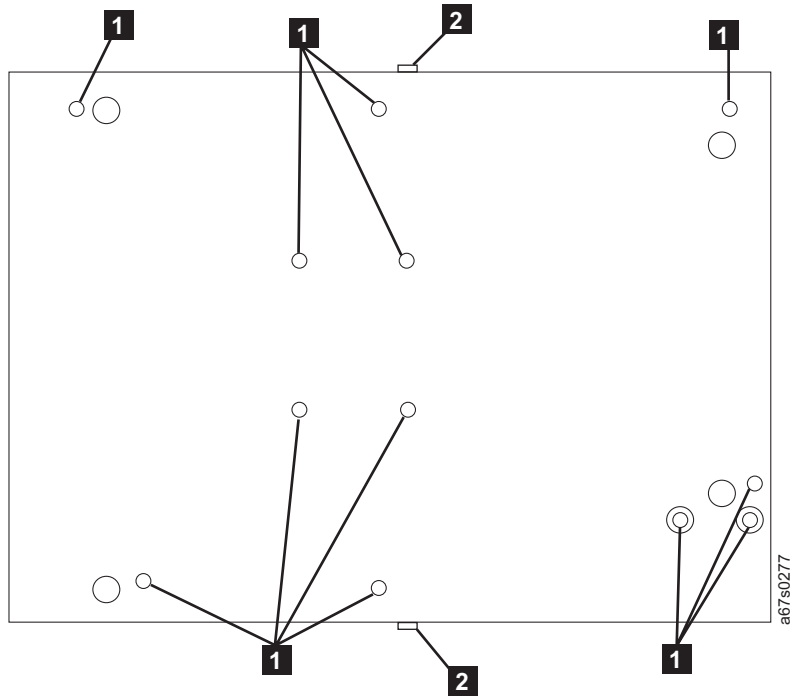

Figure 159. Location of screws on bottom cover for drive removal
- c. Remove the 12 screws from the bottom cover ( **1** in Figure 159).
- c. Remove the 12 screws from the bottom cover (refer to **1** in Figure 159 on page 270).